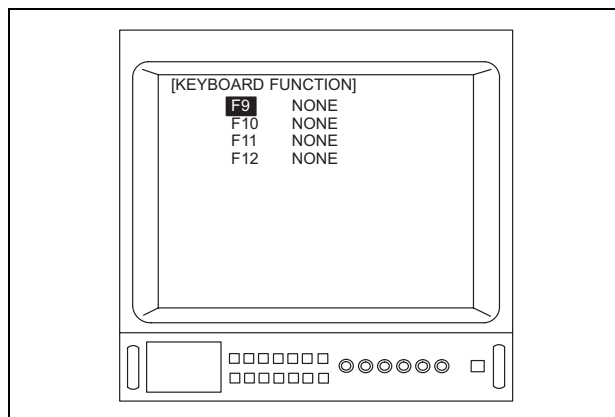

Figure 5.66
2. Depress the menu switch “◀” or the “Enter” key on the keyboard to adjust the “SETTING” (see Figure 5.66).